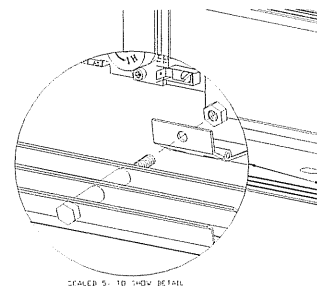

Figure J-2
4. INSTALL THE LOWER GRILL. Refer to Figure J-2.
- A. Remove the (2) 1/4" nuts from the lower grill.